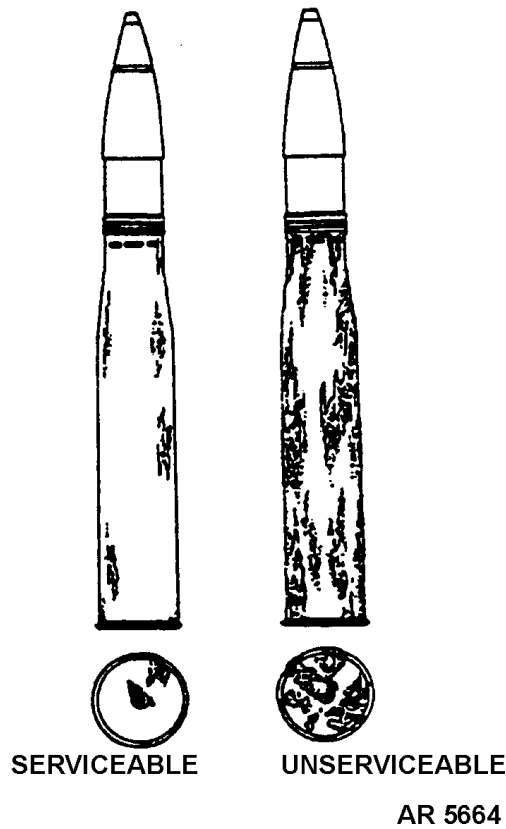

Figure 3-18. Corrosion on Primers and Cartridge Case.
3.9.1.11 Rust or corrosion on primers and cartridge case (fig. 3-18).